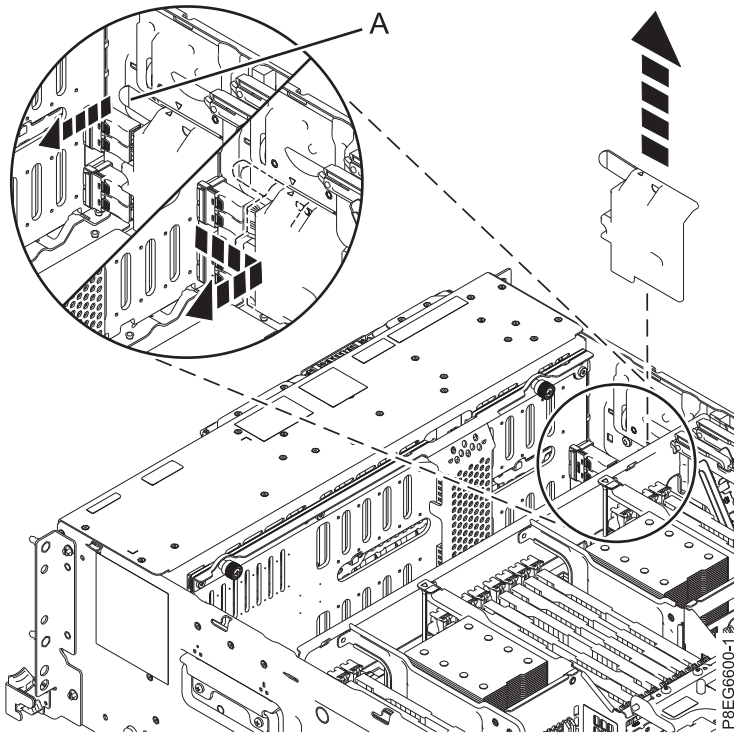

Figure 59. Removing the SAS cables cover
4. Remove the cover from the front SAS cable. Grasp the handle (A) and pull away from the side of the system, then slide the cover toward the rear to remove it as shown in Figure 59.